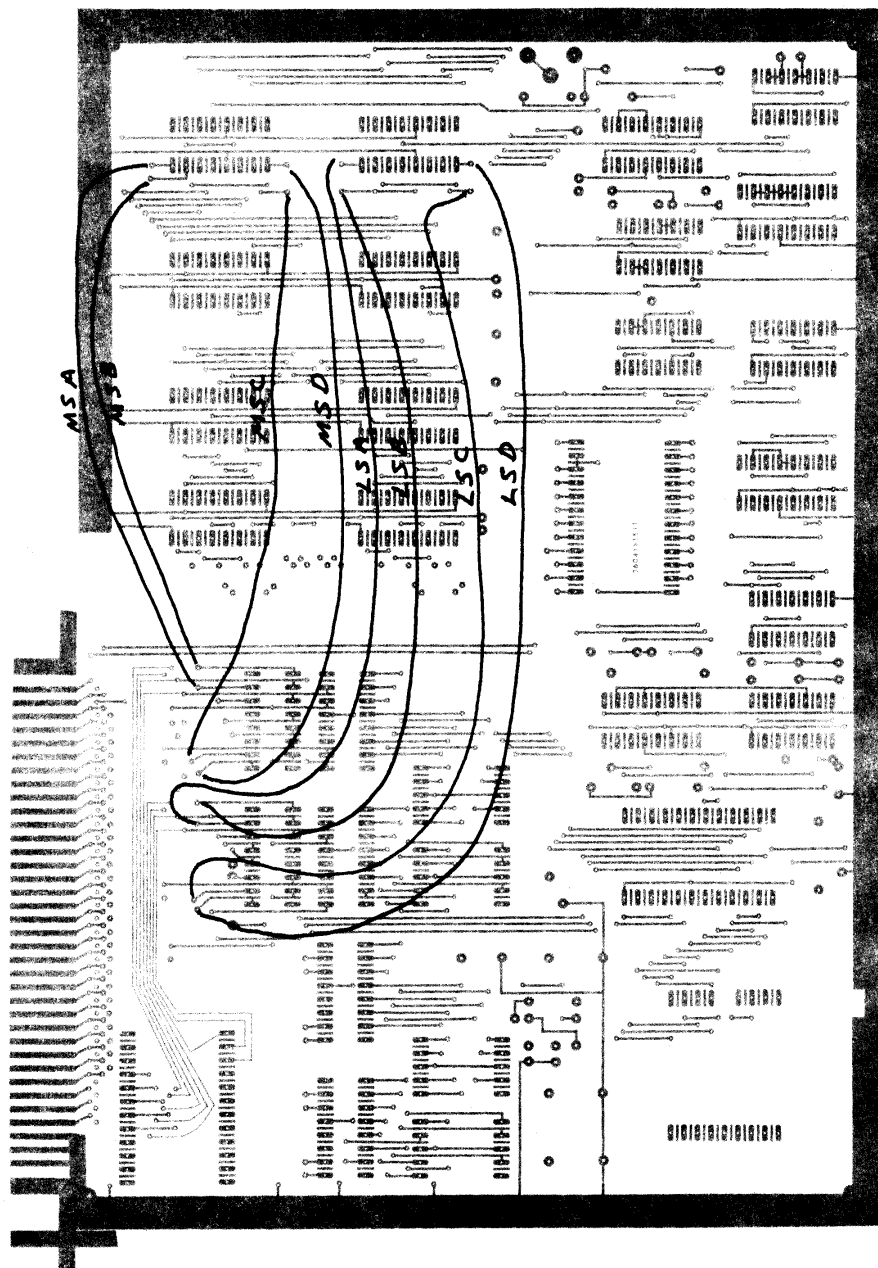

Figure 10. Wiring for MS and LS LOAD Bus
- (.) Cut and prepare eight 7 inch lengths of wire. Connect as indicated in Figure 10.